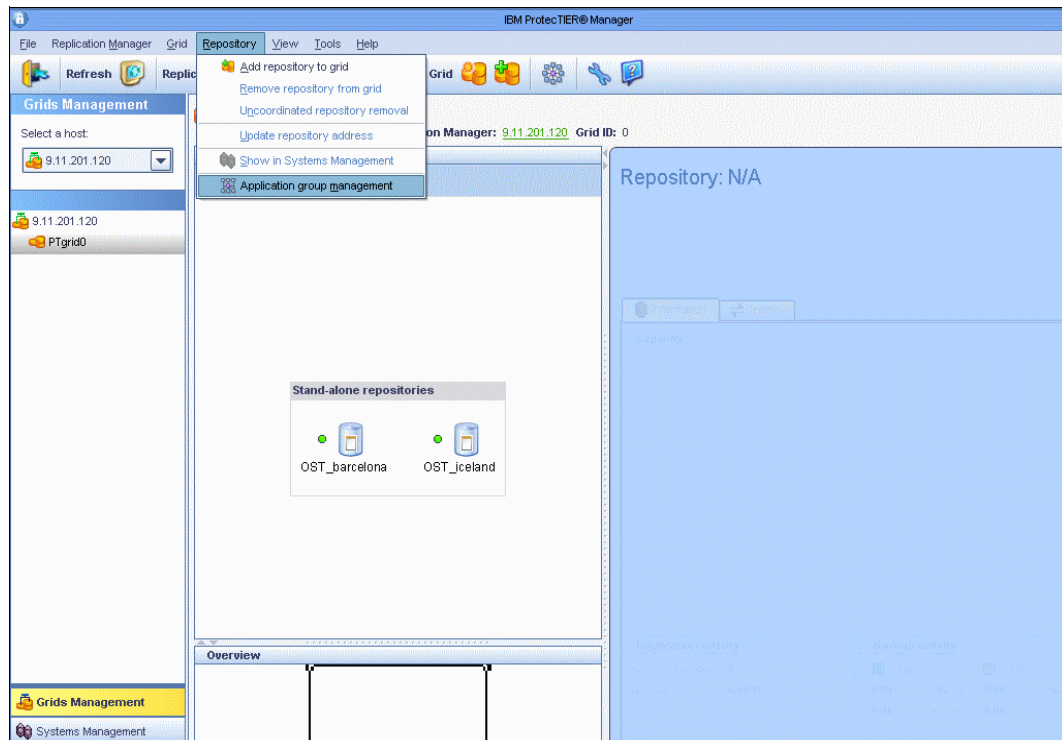

Figure 9-34 Grid Manager
1. Log in to the Grid Manager and select **Repository** → **Application group management** (Figure 9-34).